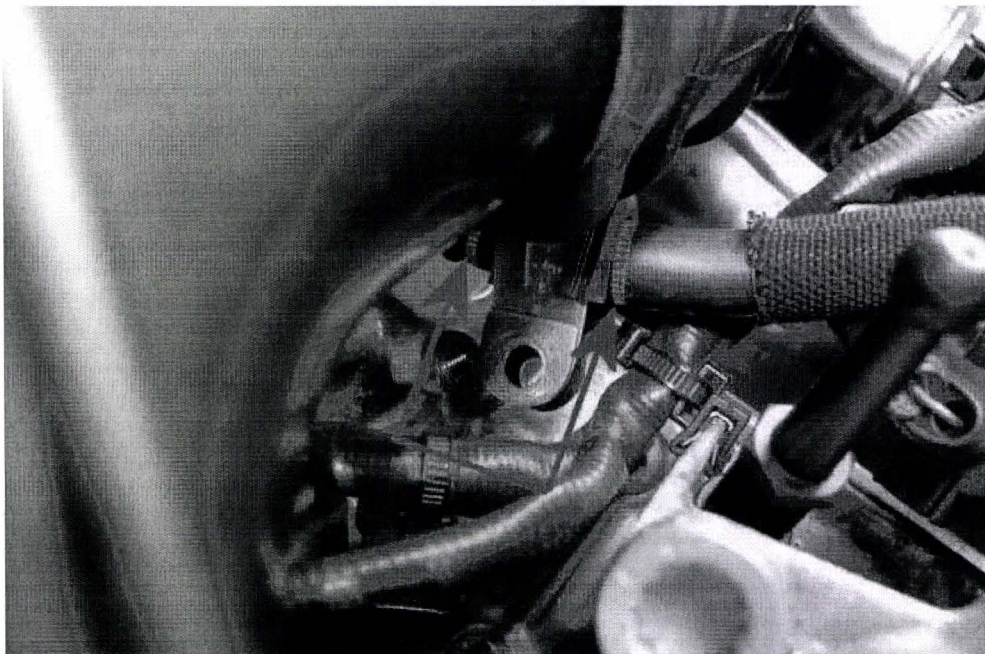

Figure 6
- Position the 'P' clamp in between the two yellow timing marks as shown in Figure 6 ensuring the correct orientation